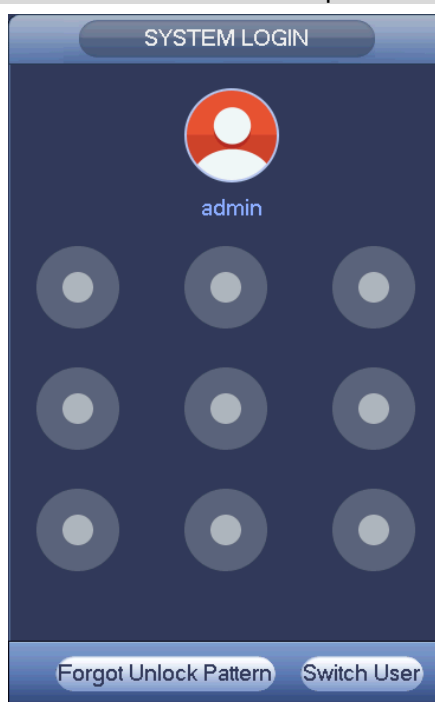

Figure 4-4
Step 1 Go to the device login interface. See Figure 4-4 or Figure 4-5. .
- If you have set unlock pattern, device displays unlock pattern login interface. See Figure 4-4. Click “Forgot unlock pattern”, device goes to Figure 4-5.